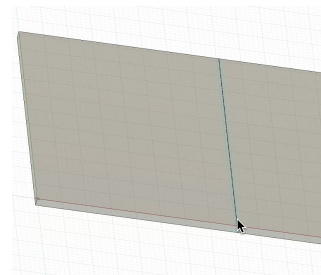

Figure 1.8
3. The software flattens the model and adds bend centerlines (see Figure 1.8).